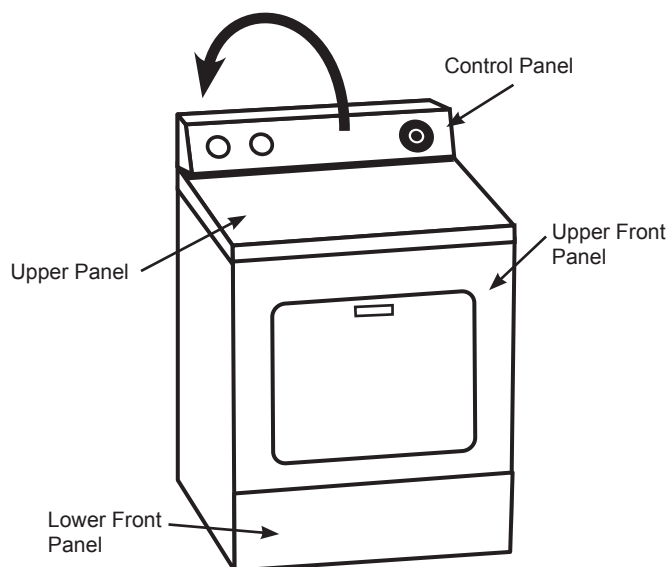

FIG. 1
2. Detach control panel, depending on your model, either use a putty knife under the panel to release the two clips or you will pull off both plastic endcaps and remove the screws found underneath. See Figure 1.